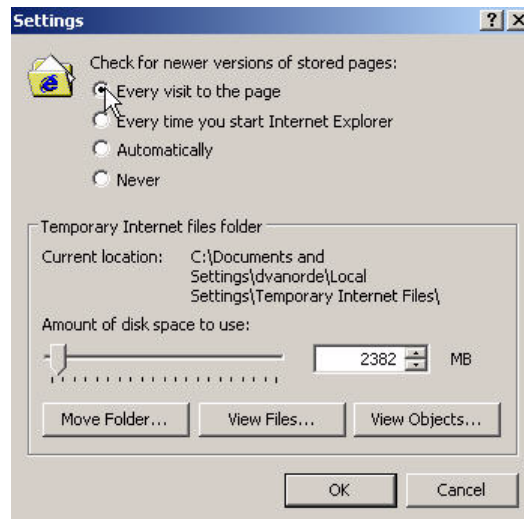

Figure 33: Settings screen
6. Click the **Every visit to the page** box as shown in Figure 33.